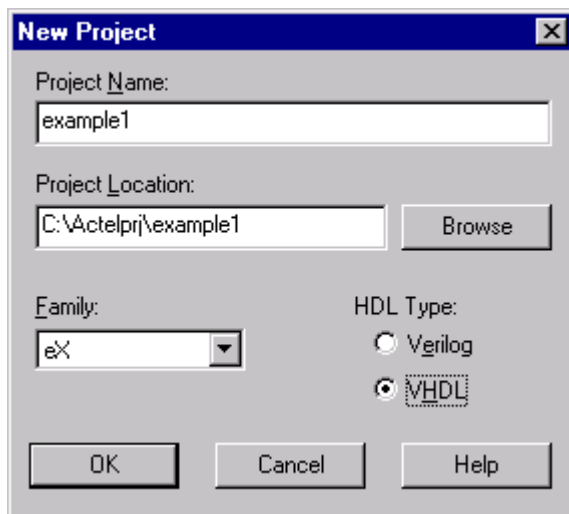

Figure 2. Libero's New Project dialog box
2. From the File menu click *New*. The New Project dialog box appears, as shown in Figure 2. Enter the following in the New Project dialog box: